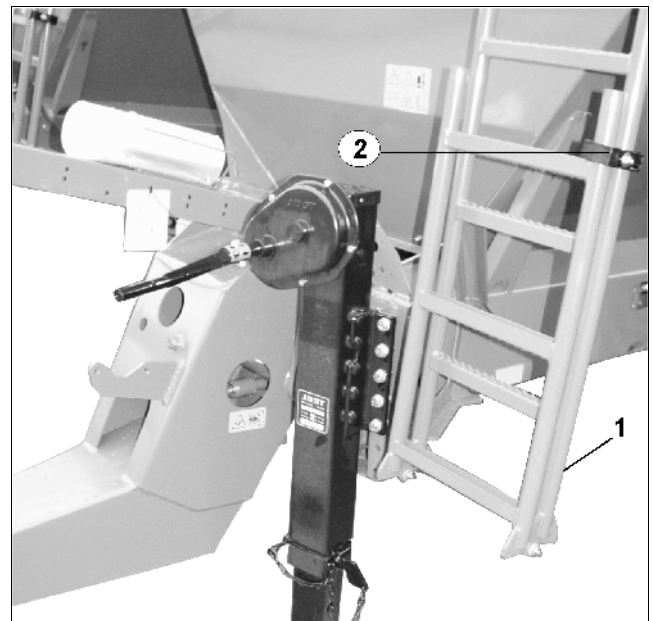

Fig. 53
- For cleaning, maintenance and repair use the foldable ladder (Fig. 53/1) to climb up the hopper.
- Lift the securing clamp (Fig. 53/2).
- Fold down the ladder (Fig. 53/1)